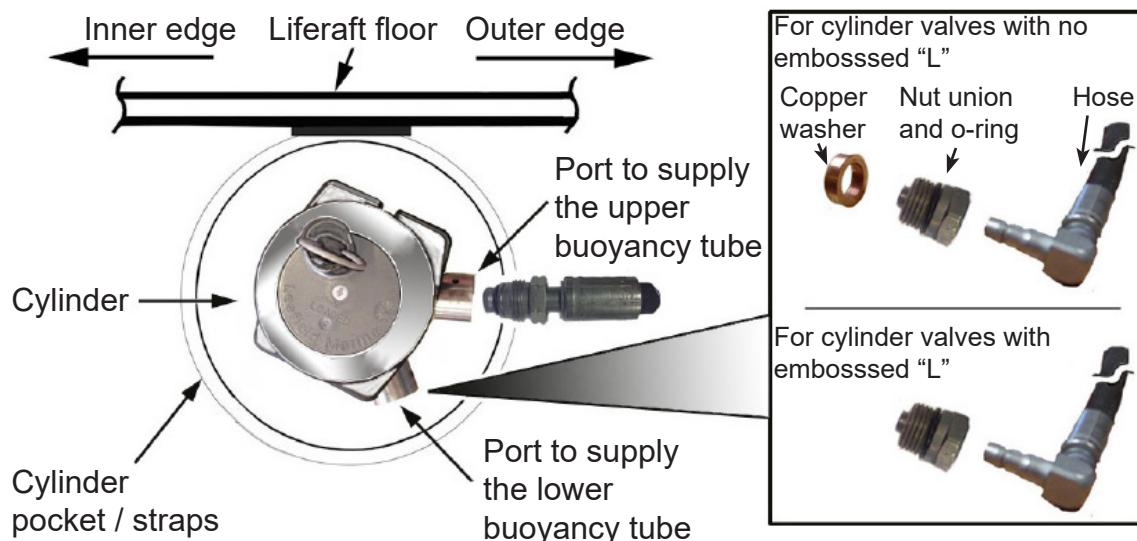

FIGURE 844
- 6.4 Upturn the edge of the liferaft to reveal the cylinder stowage pocket/straps. Refer to FIGURE 844. Slide the cylinder into the cylinder stowage arrangement, taking care not to trap the righting strap. The cylinder must be orientated so that the top operating head outlet, runs parallel with the base of the liferaft. Refer to FIGURE 844.